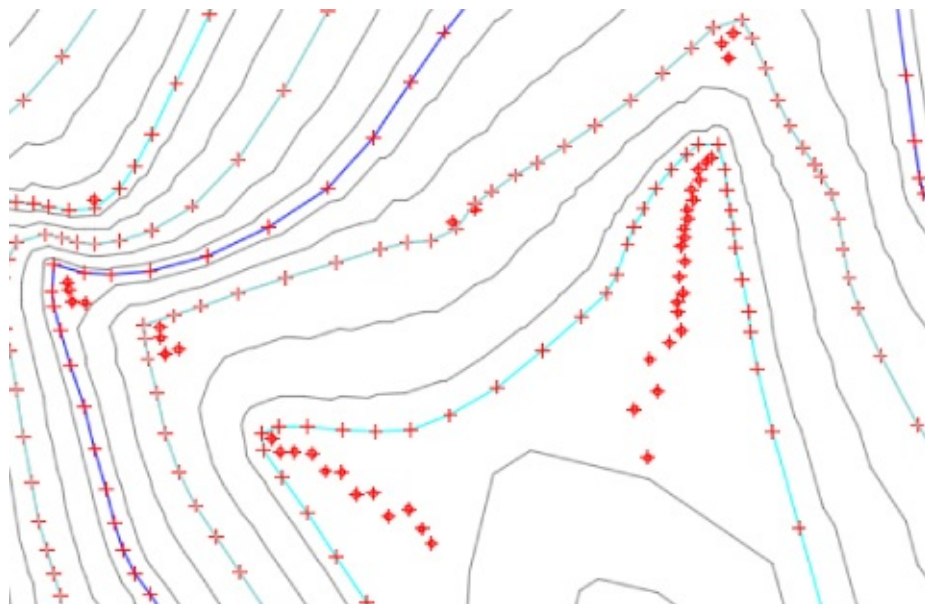

Figure 4.27 Surface data points and derived data points
18. On the Information tab, set Surface Style to Contours And Points, and click OK to see a drawing similar to Figure 4.27. Hit the Esc key to deselect the surface.
In Figure 4.27, you're seeing the points the TIN is derived from, with some styling applied to help you understand the creation source of the points. Although you can't see the colors in the printed figure, on the screen the points are shown in color to help you differentiate them. Each point shown as a red + symbol is a point picked up from the contour data itself. The magenta points shown with a circle symbol circumscribed over a + symbol are all added data on the basis of the Minimize Flat Areas edits. These points make it possible for the Civil 3D surface to match almost exactly the input contour data.